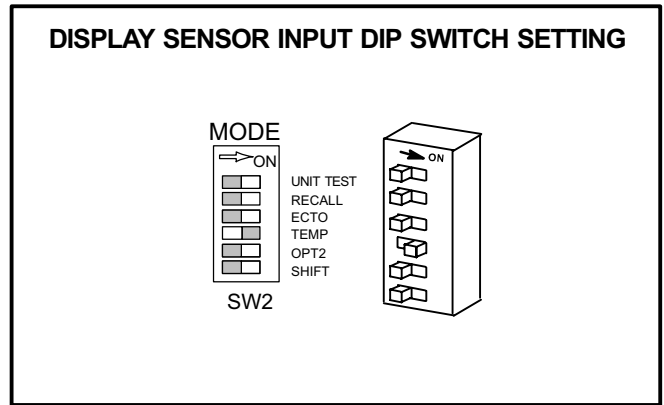

FIGURE 43
- 1- Turn the IMC MODE DIP “TEMP” switch ON. See figure 43. The IMC display will alternately flash from sensor readout to output value.